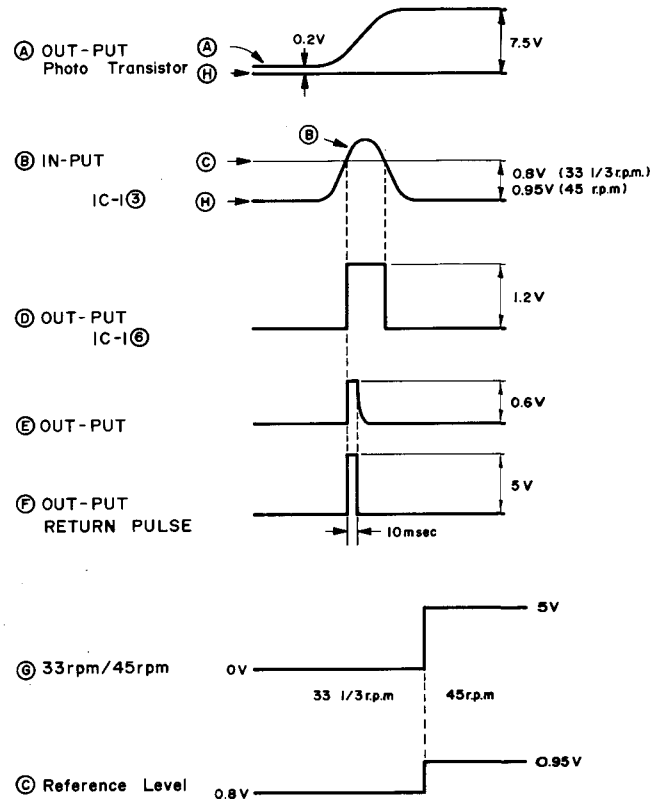

Figure 45-1
When the disc reaches nearly its final grooved part, the shutter attached to the rear of the arm tends to enter between the LED and photo transistor, and as a result, the collector voltage of the photo transistor will be changed as shown in Fig. 45-1-(A).
The voltage at the (A) is applied to the C₁ and there develops output signal shown in fig. 45-1-(B). This voltage increases as the arm moving speed becomes faster.
(2) Voltage Comparator